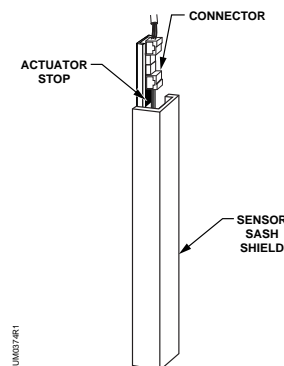
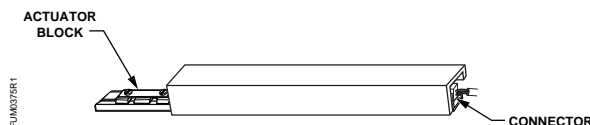

Figure 33. Sash sensor shield on vertical sensor
Figure 34. Sash sensor shield on horizontal sensor.
1. Test fit the sensor shield before removing the adhesive cover. See Figure 33 and Figure 34.
For Vertical Sash Sensors: Position sensor shield on sensor track as shown in Figure 33. Position the shield over the end of the UniTrak at the bottom of
For Horizontal Sash Sensors: Position the sensor shield on the sensor track, as shown in Figure 34. Position the shield over the connector end of the UniTrak to allow service access on the opposite end.